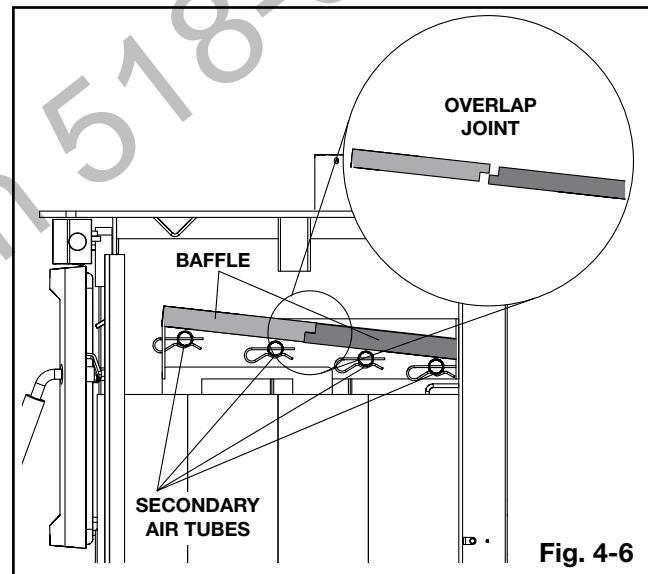

Fig. 4-6
- Carefully pivot fibre baffles (D) up onto the secondary air tubes as illustrated (**Fig. 4-6**). Ensure that the top baffles are pushed all the way to the rear of the firebox, leaving a minimum of a 1 inch gap along the front. This will allow the flue gases to escape the firebox. Ensure overlap joint is tight.
- Install the two (E) bricks along the front.